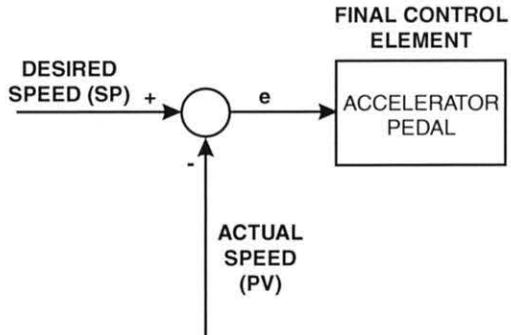

Figure 9. Rectangle Indicates the Final Control Element (Accelerator Pedal)
- C. Draw a rectangle to the right of the circle to represent the final control element (accelerator pedal), as shown in figure 9. In addition, draw the flow line from the output of the comparison circle to the final control element. This flow line represents the error between the desired speed and the actual speed.